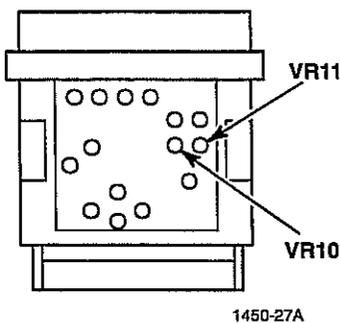

Figure 3-22.
- b. Adjust VR10 (Figure 3-22) for  $1.50 \text{ VDC} \pm 0.05 \text{ VDC}$ .
- b. Adjust VR11 (Figure 3-22) for  $1.50 \text{ VDC} \pm 0.05 \text{ VDC}$ .